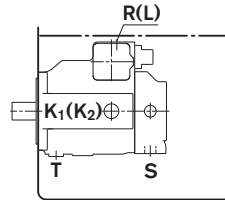

Fig. 3
a) When the minimum fluid level is equal to or lies above the upper edge of the pump (only possible for sizes 71 and 125): case drain port and suction port »S« open (see fig. 3).